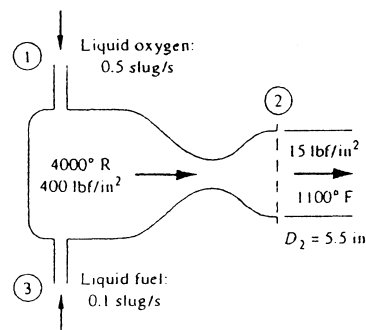
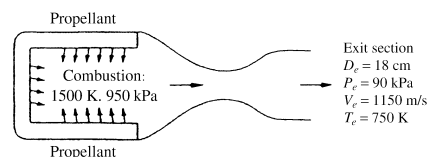

Fig. P3.34
Fig. P3.35
**3.34** A rocket motor is operating steadily, as shown in Fig. P3.34. The products of combustion flowing out the exhaust nozzle approximate a perfect gas with a molecular weight of 28. For the given conditions calculate  $V_2$  in ft/s.
**3.35** In contrast to the liquid rocket in Fig. P3.34, the solid-propellant rocket in Fig. P3.35 is self-contained and has no entrance ducts. Using a control-volume analysis for the conditions shown in Fig. P3.35, compute the rate of mass loss of the propellant, assuming that the exit gas has a molecular weight of 28.